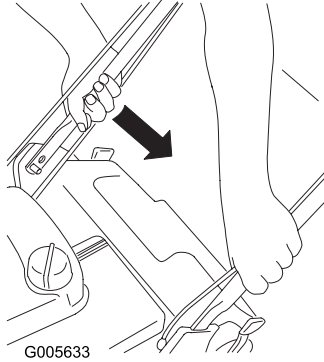

Figure 37
1. Push in the right bottom handle end until the handle slides past the stops on the handle brackets (Figure 37).